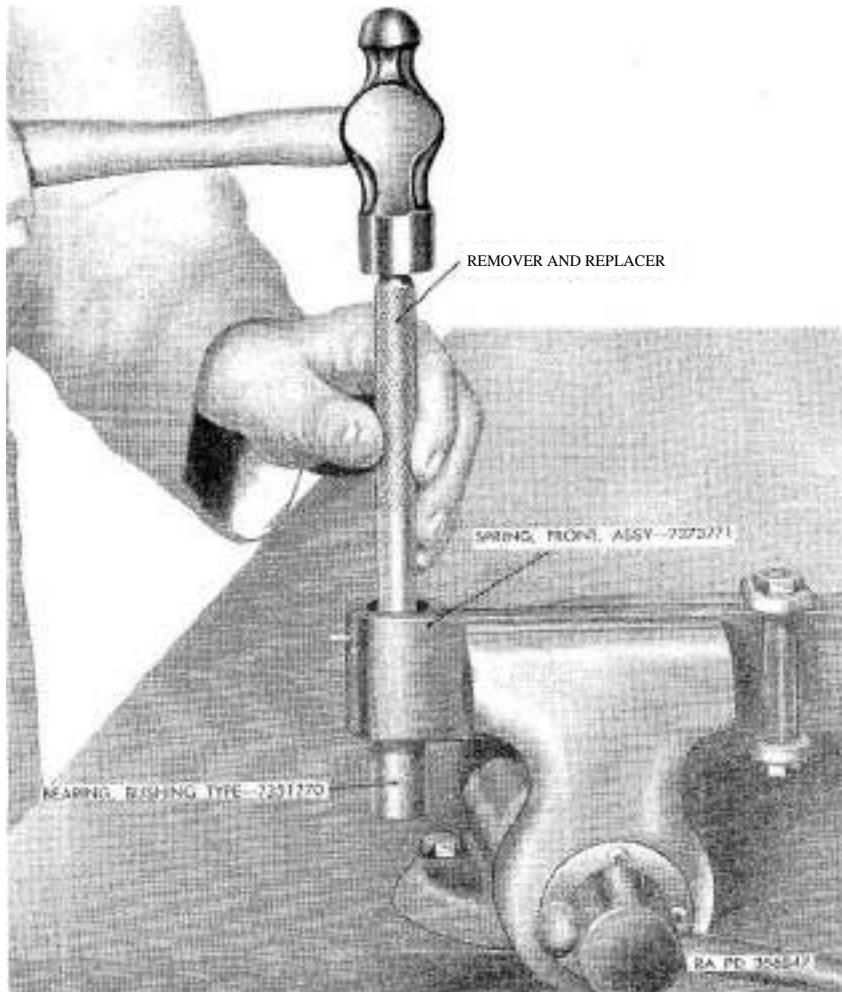

Figure 174. Removing hushing-type hearing from spring with a bushing 'remover and replacer.'
Place spring leaf in a vise and remove bushing-type bearings with a remover and replacer (*fig. 174*).
- (1) If inspection (par. 197a) reveals that replacement of the bushing-type bearings (A and E) is necessary, place No. 1 spring leaf (F) in a vise and install new bearings with a remover and replacer (fig. 174).
- (2) Ream bearings so that spring bolts are a free fit in bearings, with minimum clearance.